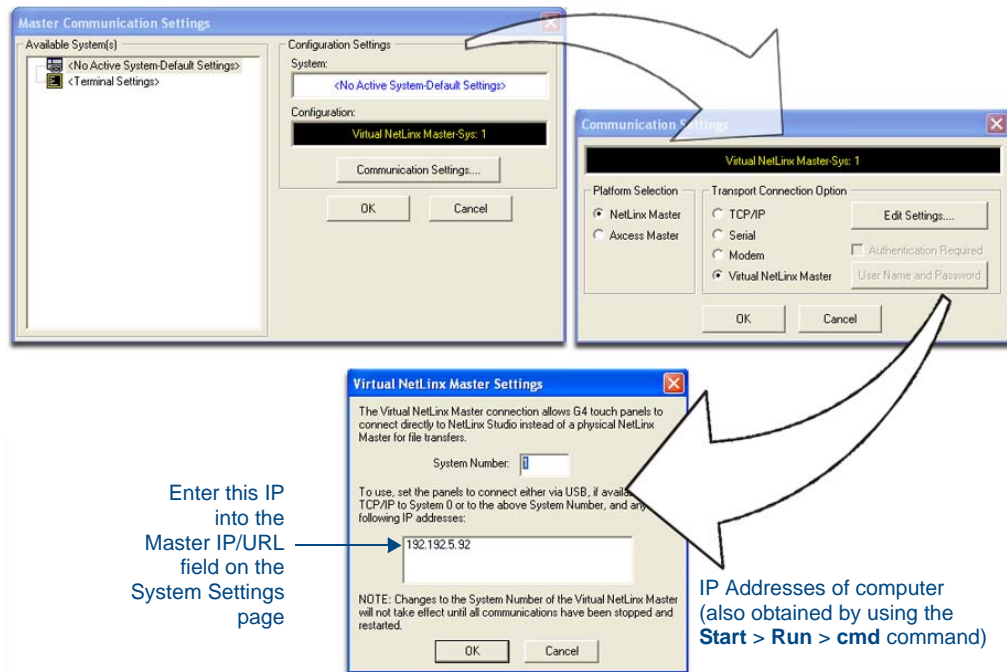

FIG. 64 Assigning Communication Settings and TCP/IP Settings for a Virtual Master
3. Select **Settings > Master Communication Settings**, from the Main menu to open the Master Communication Settings dialog (FIG. 64).
7. Click the **Edit Settings** button (*on the Communications Settings dialog*) to open the Virtual NetLinx Master Settings dialog (FIG. 64).